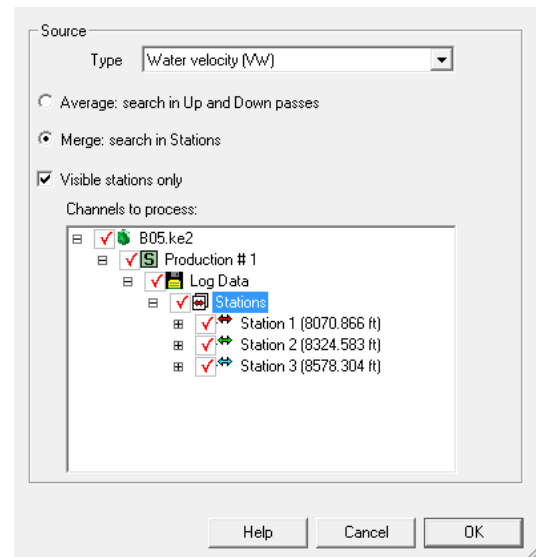

Fig. B05.27 • Stations selection
- Select 'All' available stations by clicking on the node 'Stations', Fig. B05.27.